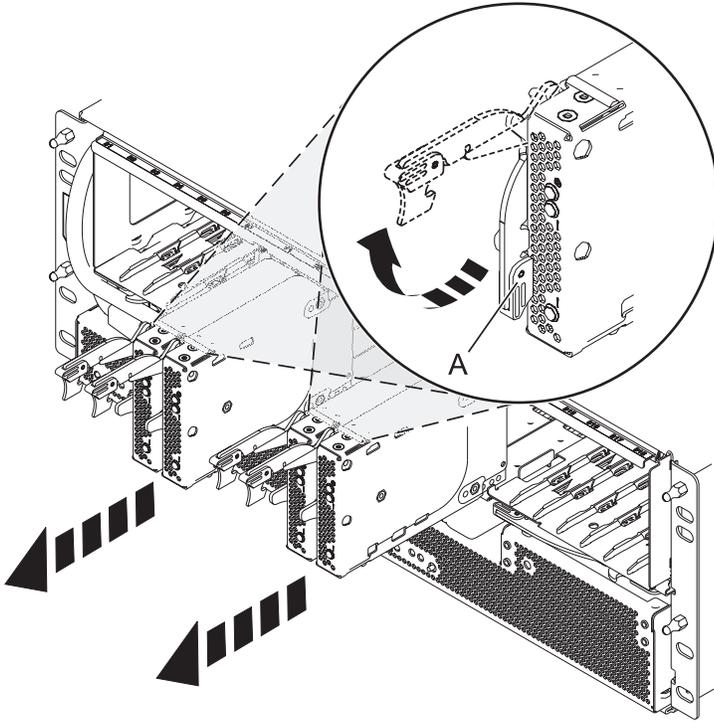

Figure 76. Removing the port card from the backplane
5. Remove the port cards and fillers as shown in Figure 76 on page 98.